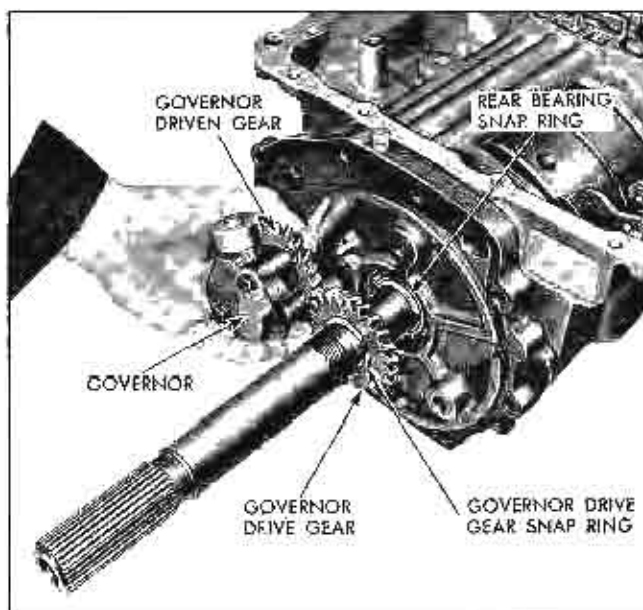

Fig. 58 Removing Governor from Reverse Piston Housing
6. Pull governor out of reverse clutch piston housing (Fig. 58).
8. Remove rear bearing snap ring from output shaft (Fig. 58).